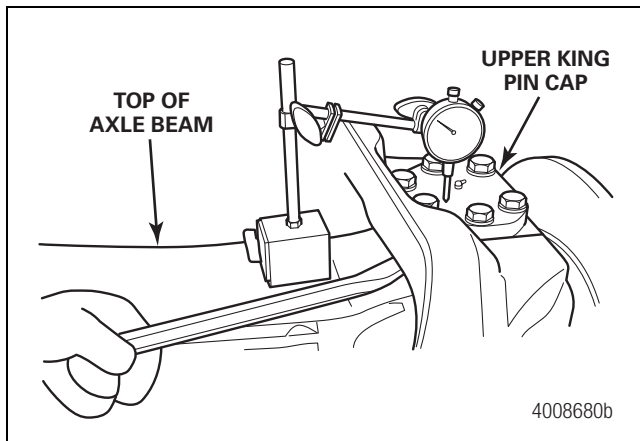

Figure 9.13
9. Install a dial indicator to the axle housing so that the tip is located on the upper king pin cap. Figure 9.13.